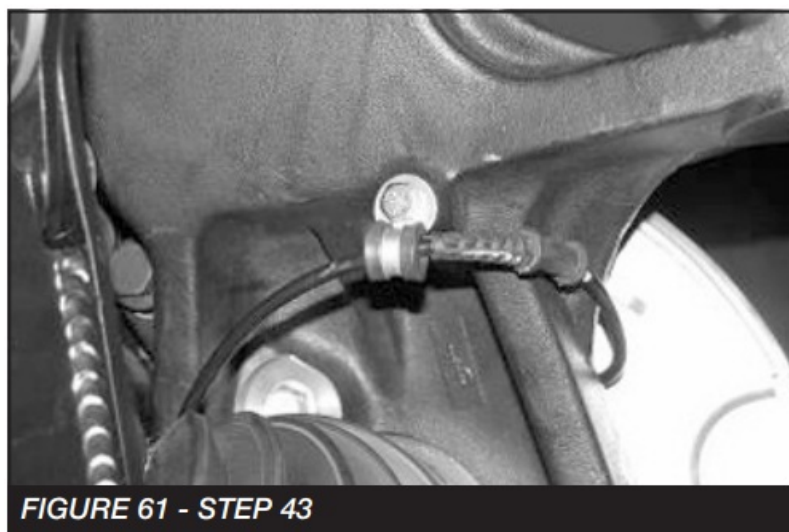

FIGURE 61 - STEP 43
43. Re-route the brake hose and the ABS Line to the steering knuckle using the model clamp to the back of the steering knuckle and attach with 1/4" x 3/4" bolt and washer. Torque to 10 ft-lbs. Route the ABS line next to the brake hose. Re-connect the ABS line to the harness in the wheel well. Using the provided plastic zip ties, secure the line to the hose and away from the tire and wheel. SEE FIGURE 61